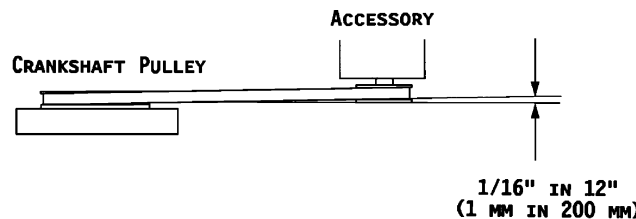

Figure 20: Belt Alignment
- ! Belt driven equipment must be held in alignment to a tolerance of 1 mm in 200 mm (1/16" in 12") (see figure 20).